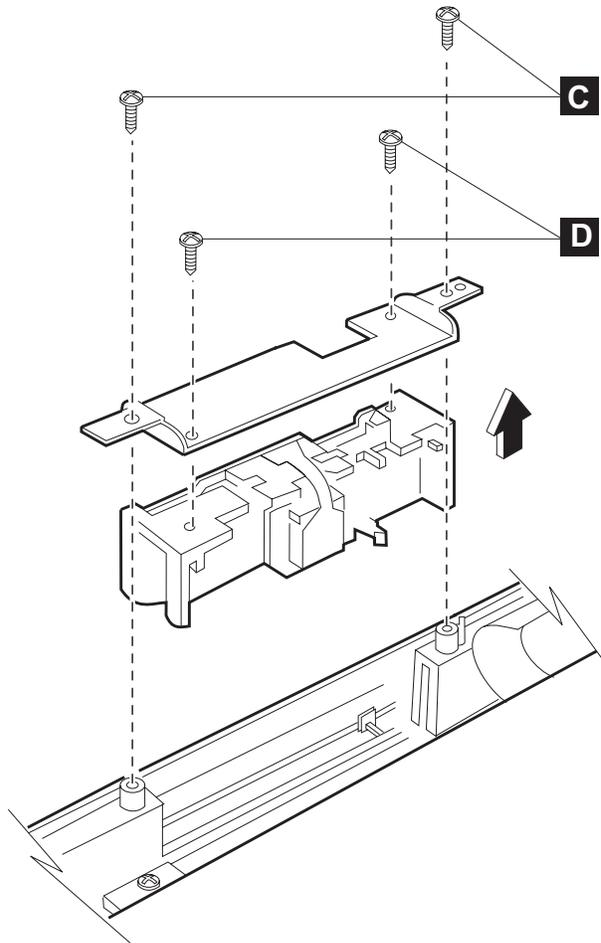

Figure 59. USB keyboard-V components – part 4
3. Remove the two screws (**C** in Figure 59 on page 60).
Note: Be careful to correctly orient the magnetic stripe reader unit (see Figure 59).